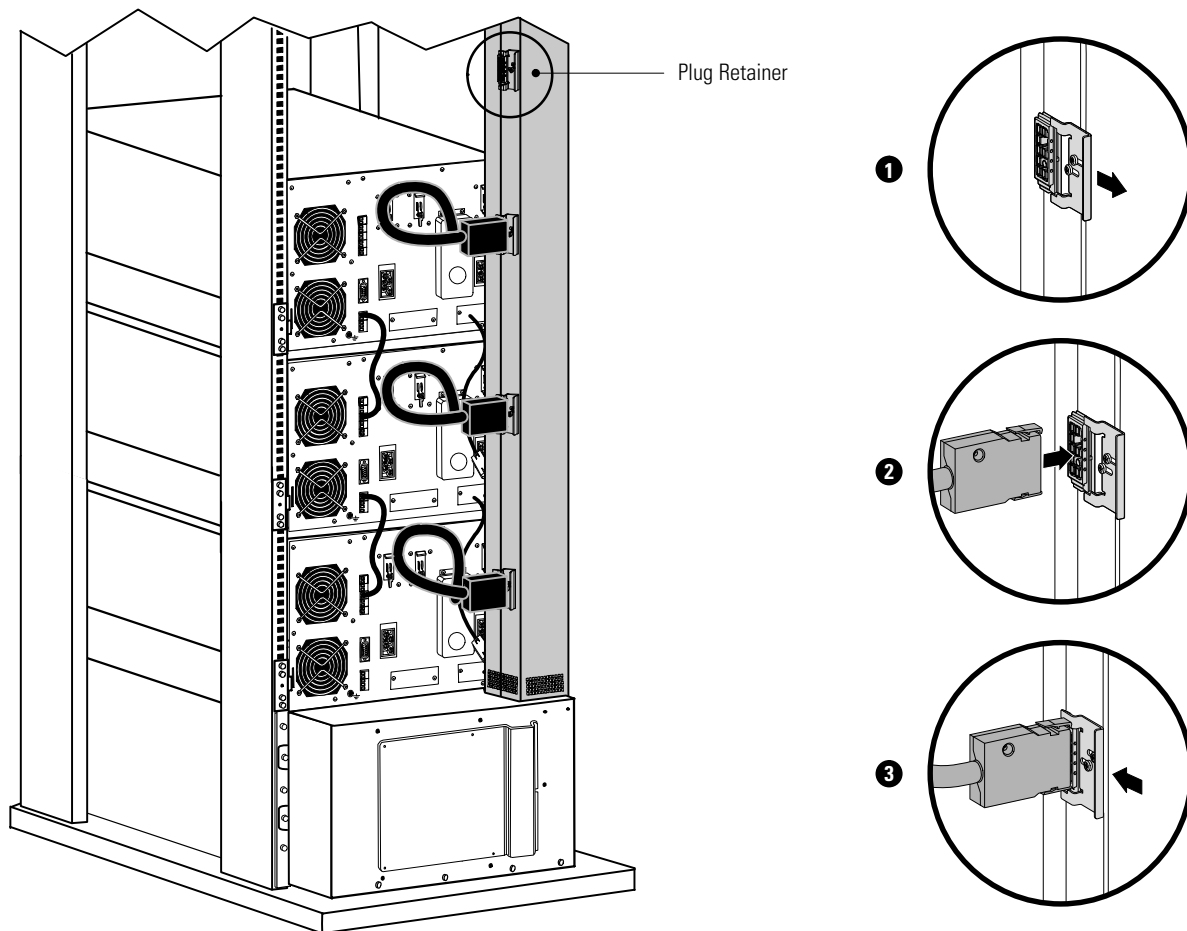

Figure 70. Connecting UPSs to the BladeUPS Bar (Bottom Entry Shown)
20. Connect the parallel input cord from each paralleled UPS as shown in Figure 70: